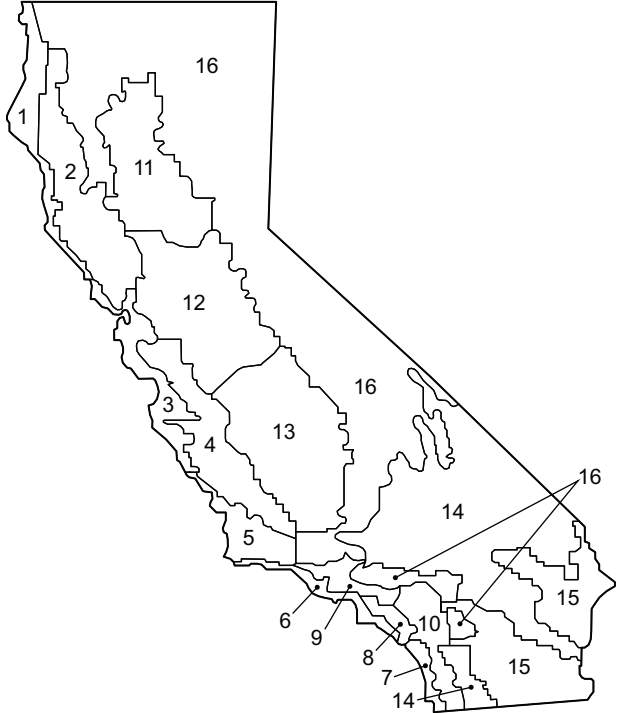

Fig. 26 — California Title 24 Zones
- b. See Fig. 26 for map of California Title 24 zones